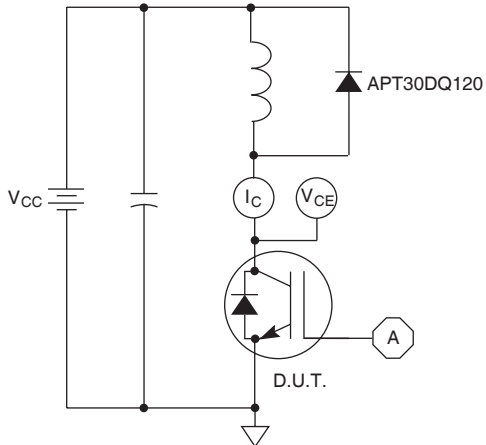

Figure 21, Inductive Switching Test Circuit
- ① Repetitive Rating: Pulse width limited by maximum junction temperature.
- ② For Combi devices, I_{ces} includes both IGBT and FRED leakages
- ③ See MIL-STD-750 Method 3471.
- ④ E_{on1} is the clamped inductive turn-on energy of the IGBT only, without the effect of a commutating diode reverse recovery current adding to the IGBT turn-on loss. Tested in inductive switching test circuit shown in figure 21, but with a Silicon Carbide diode.
- ⑤ E_{on2} is the clamped inductive turn-on energy that includes a commutating diode reverse recovery current in the IGBT turn-on switching loss. (See Figures 21, 22.)
- ⑥ E_{off} is the clamped inductive turn-off energy measured in accordance with JEDEC standard JESD24-1. (See Figures 21, 23.)
- ⑦ R_G is external gate resistance, not including $R_{G(int)}$ nor gate driver impedance.